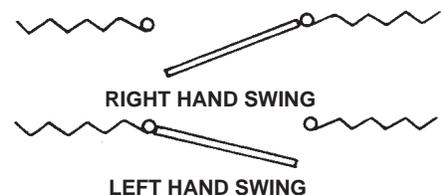

Figure 2. Swing Gate
(3) CHECK THE GATES: Before starting Operator installation, inspect to ensure that the gates are in good working condition, are rigidly supported, and have no obstructions to block or retard their swing. Electric Gate Operators cannot be expected to power operate gates where conditions prevent or resist manual operation. Latches, foot bolts, or other devices should be removed from the gate to prevent their accidental engagement. When standing in a position facing the closed gate and the gate swings toward you to open, the gate has its pivot pin to the left, this is considered a left hand. When the gate has its pivot pin on the right and opens toward you, it is considered right hand. Refer to Figure 2 Swing Gate for gate handing.
(4) REVIEW THE INSTALLATION DRAWINGS: The installation drawings show the layout of the gate, template drilling for the gate bracket and channel post, and general terms used to describe components. Review of the installation drawings will familiarize you with the equipment.